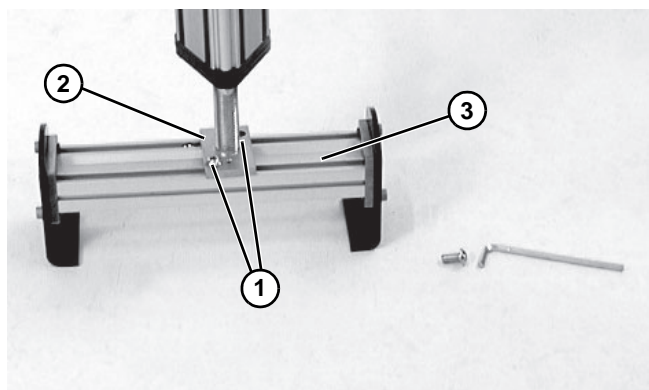
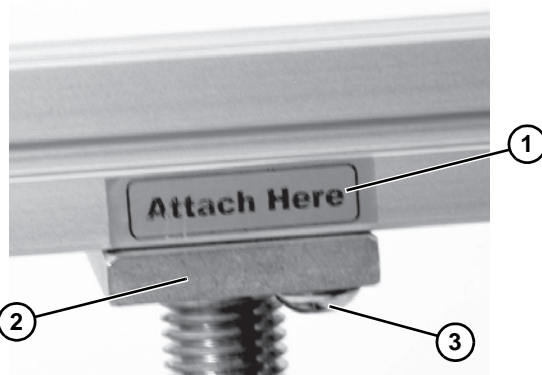

Figure 8
Figure 9
9. Align the screw holes (**Figure 8, item 1**) of the stand top screw end plate (**Figure 8, item 2**) with the hex nuts in the t-slots in the crossmember tube (**Figure 8, item 3**).
11. To center the conveyor mounting bracket (**Figure 8, item 3**), position the “Attach Here” sticker (**Figure 9, item 1**) with the end plate (**Figure 9, item 2**) of the stand top screw assembly.
Failure to secure screws (Figure 9, item 3) may cause conveyor sections to drop down, causing severe injury.
TIGHTEN ALL SCREWS (Figure 9, item 3) AFTER ADJUSTMENT.
12. Tighten button screws (**Figure 9, item 3**) to 100 in-lb (11 N-m).